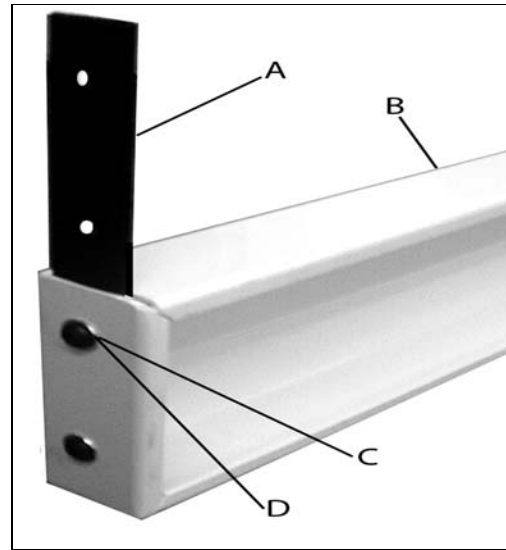

Figure 1A
1. Attach straps (A, Fig. 1A) to extension base (B, Fig. 1A) with (2) 5/16-18 button head cap screws (C, Fig. 1A) and with (2) 5/16 flat washers (D, Fig. 1A). If needed punch holes through striping decal. NOTE: Leave screws slightly loose.